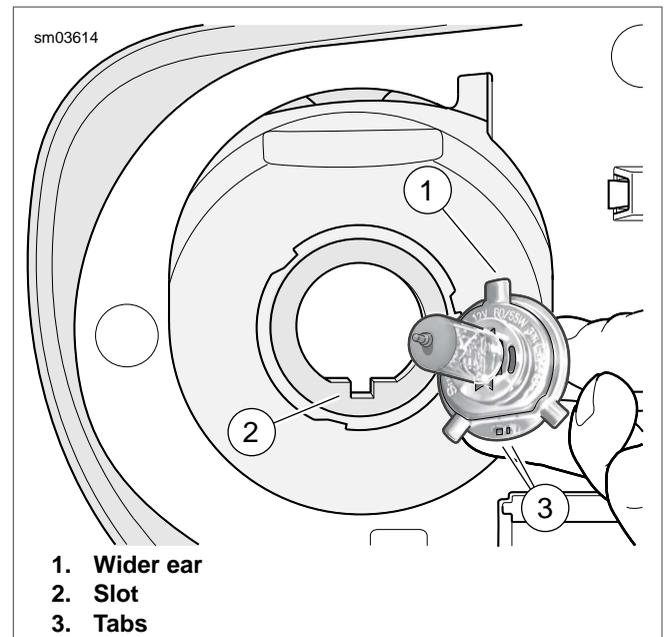

Figure 8-22. Install New Bulb in Bulb Housing
1. See Figure 8-22 Install new bulb in bulb housing. Orient bulb so that wider ear on backplate is topside and then push bottom of backplate so that tabs on outboard side fit snugly in slot of bulb housing.